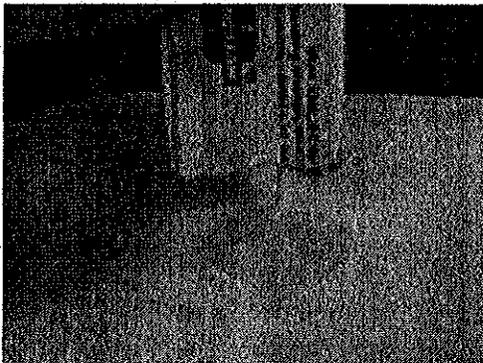

Figure 21: Parts ready to assemble
4. Prepare your workspace to quickly glue everything, since with many epoxies (including the one specified in the parts list), you will only have about **3 minutes** of working time before they get too stiff to use. Lay out your three potted motors, your propeller shafts with a nut on each, your three propellers, and your three remaining nuts (Figure 21).